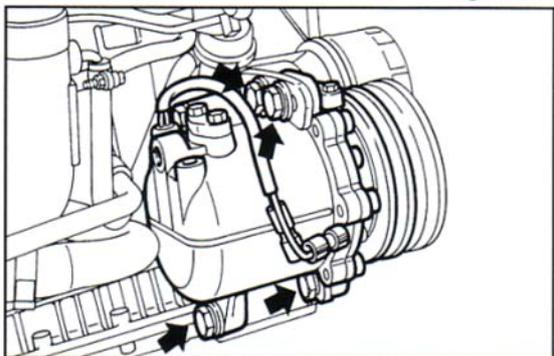

Fig. 10 ▼
- unscrew the screws and remove the air conditioner compressor (**Fig. 10**).